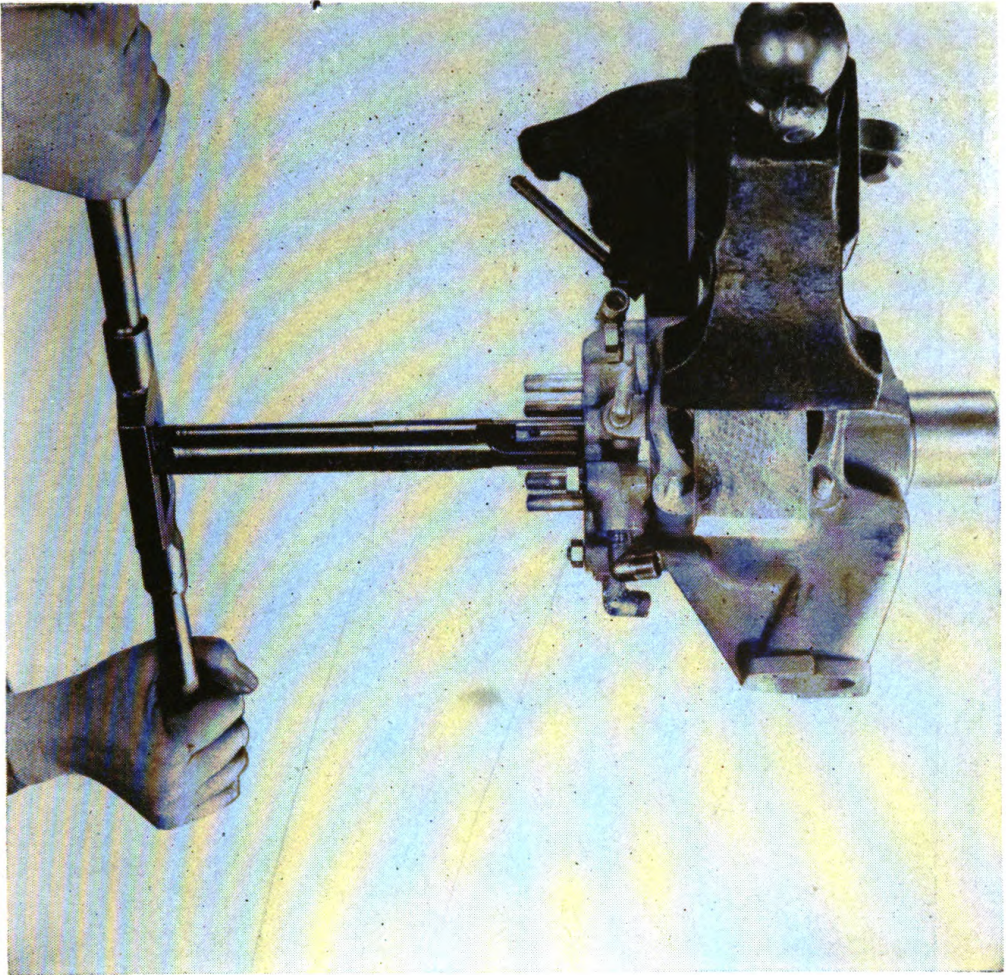

Figure 121. Reaming bearing.
(6) To ream bearings, attach crankcase head. Place crankcase assembly in vice as shown in figure 121. Use wood blocks to prevent injury to studs. Two reamers are used in this operation, the rough reamer No. S-86 and the finish line reamer No. S-83. Insert pilot of rough reamer through bottom journal bearing and on into top bearing while turning reamer clockwise, facing bottom bearing. (See fig. 121.) Reamers are provided with two cutters, one for each bearing. Turn reamer, at same time forcing it gently forward until cutters pass through bearing. Withdraw reamer slowly with clockwise turning motion. Insert finish line reamer and proceed in like manner. The bearing now should be reamed to correct size and ready for assembly of the motor.